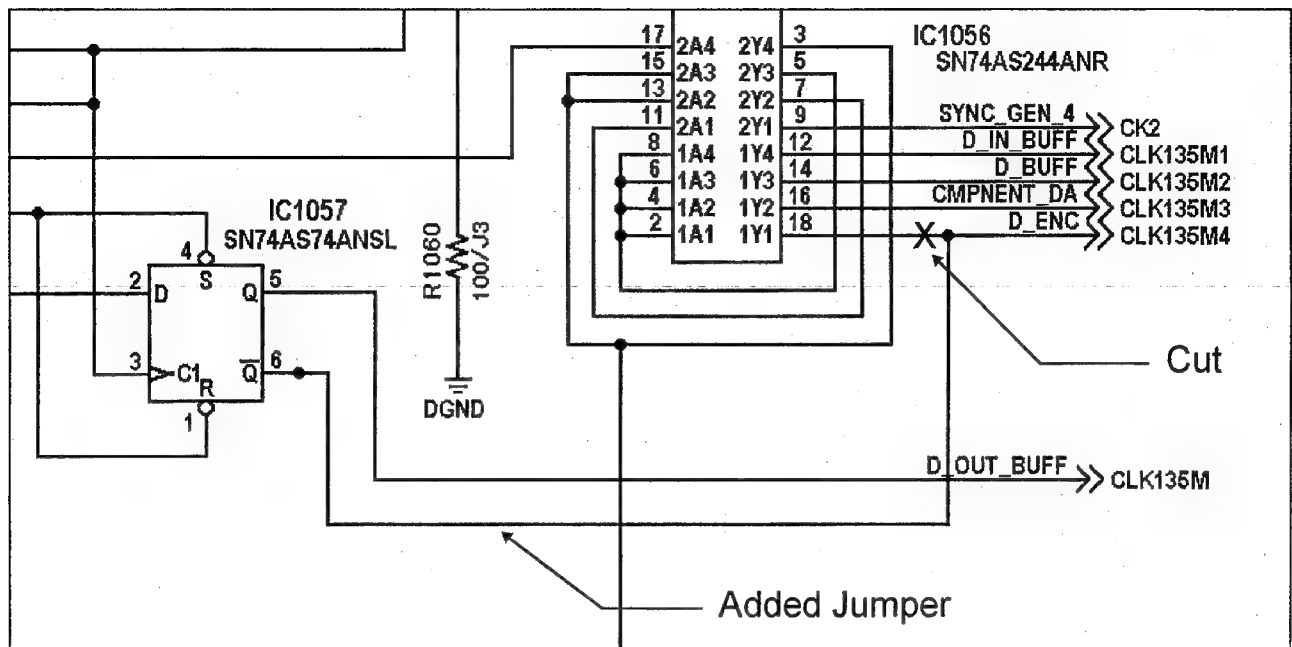

Fig. 1. Page 2-58 (C-7~9)
- 1). Cut the foil of (A) portion on the foil side as shown in figures 1 and 2.
- 2). Connect a jumper wire between pin #15 of IC303 and pin #6 of IC1057 on the foil side as shown in figures 1 and 2.